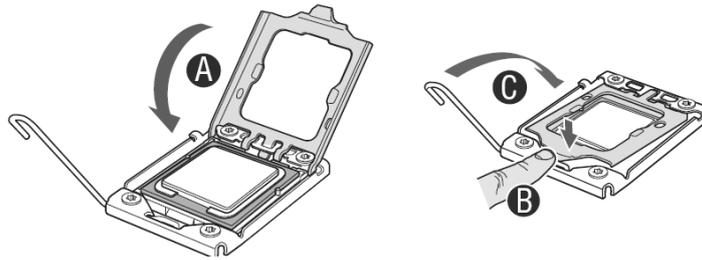

Figure 18. Close Load Plate and Socket Lever
11. Close the load plate and socket lever: Close the load plate all the way as shown in Figure 18 (Step "A"), push down on the load plate (Step "B" in Figure 18), and close the socket lever and ensure the load plate tab engages under the socket lever when fully closed (Step "C" in Figure 18).